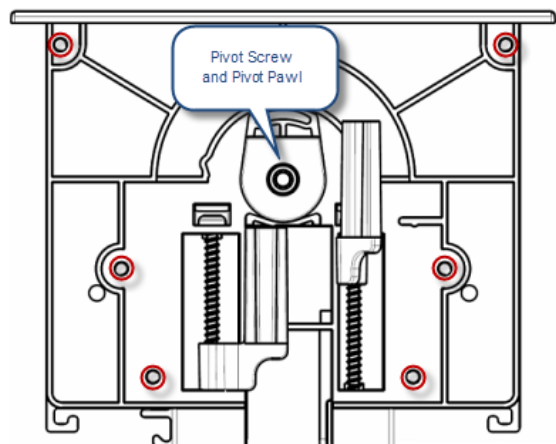

FIG. 4 HPX Base Assembly (shown mounted) - Mounting/Pivot Screw Locations
1. Remove the (silver) pivot screw and pivot pawl assembly in the center of the End Cap (FIG. 4).
3. Secure the End Cap with the six (black) sheet metal screws (removed in Step 2 - 2; see FIG. 4).
4. Replace the (silver) pivot screw and pivot pawl assembly (removed in Step 2 - 1, see FIG. 4) in the center of the End Cap.